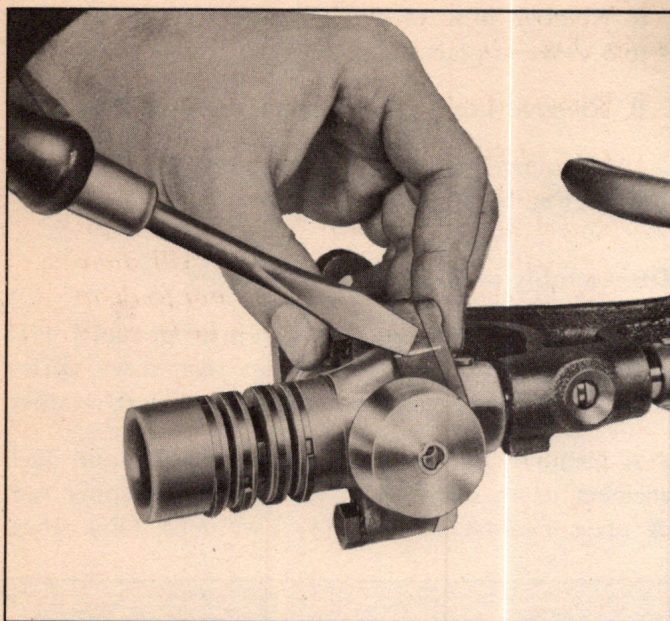

Fig. 162—Marking Governor Body and Drive Flange
1. Mark edge of governor body and governor drive flange (if not previously marked) so they may be reinstalled in original position (Fig. 162).